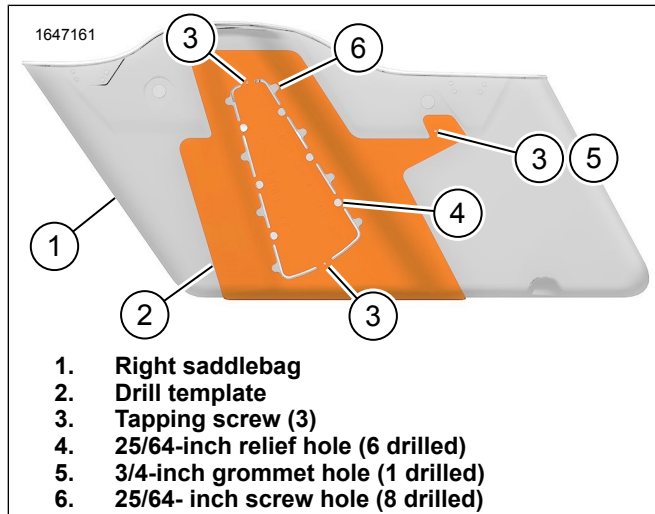
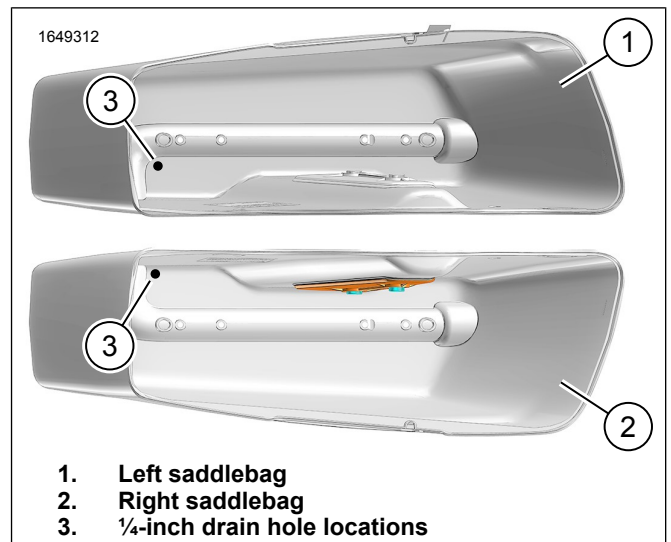

Figure 8. Right Saddlebag Drill Template
Figure 10. Drainage Hole Placement
1. See Figure 8. Position drill template on right saddlebag.
3. See Figure 8. Modify right saddlebag (1).
- b. **Relief Holes:** Drill six 25/64-inch relief holes (4).
- c. **Screw Holes:** Drill eight 25/64-inch screw holes (6).
- d. See Figure 10. **Drainage Holes:** Drill two 1/4-inch drainage holes (3) in the approximate location.